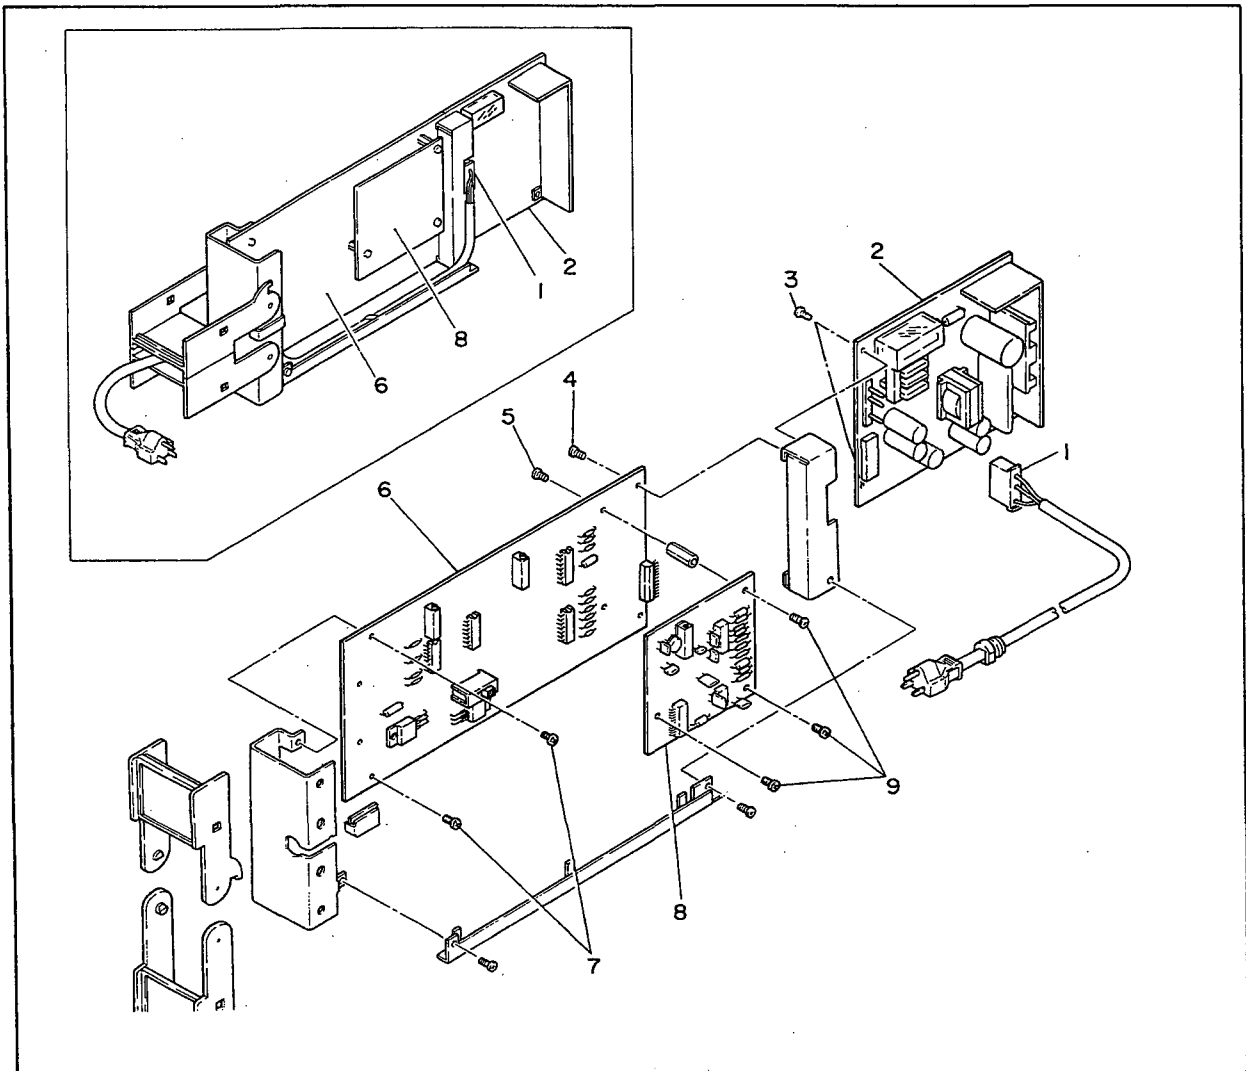

Figure 7-6. Disassembled View (SDBU-21□).
7-5-1. Disassembly Procedure (see Figure 7-6).
- (1) Remove the three screws ⑨.
- (2) Remove the SQRT card ⑧ from the main card ⑥ (⑧ and ⑥ are connected with a connector).
7-5-3. Disassembling the Power Unit (② in Figure 7-6).
- (1) Unplug the connector ① from the board ②.
- (2) Remove the two screws ③ to separate the board ② from the main card.